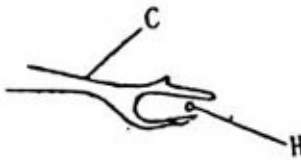

Fig. 23
b) After adjustment, make sure the needlepoint should be in the center of the opening of spreader C with the spreader at the left end (Fig. 23)